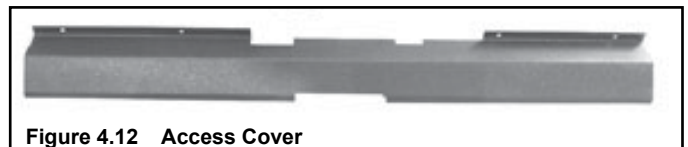

Figure 4.12 Access Cover
3. Remove 2 screws and take off access cover. Figure 4.12